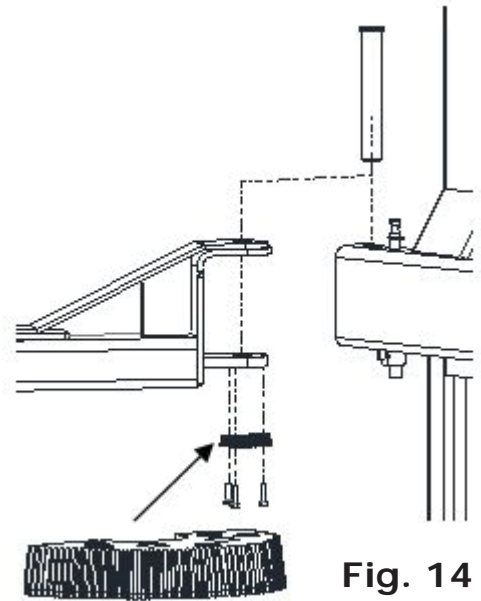

Fig. 14
7.15 Installation Of Arms (Ref. Fig. 14)